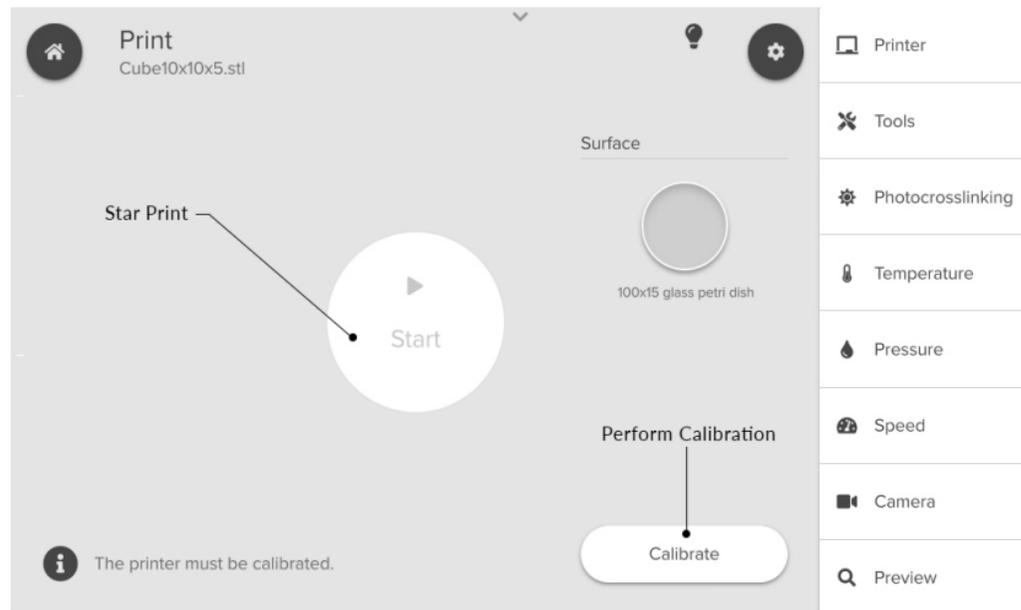

Figure 17: Bioprint menu. You can calibrate the system and begin the bioprinting process.
10. Select Calibrate (Figure 17). Bring the tip of the nozzle/needle to your desired starting position. We recommend making sure that the tip touches the surface of your printing substrate.
11. Start the bioprinting process (Figure 17).